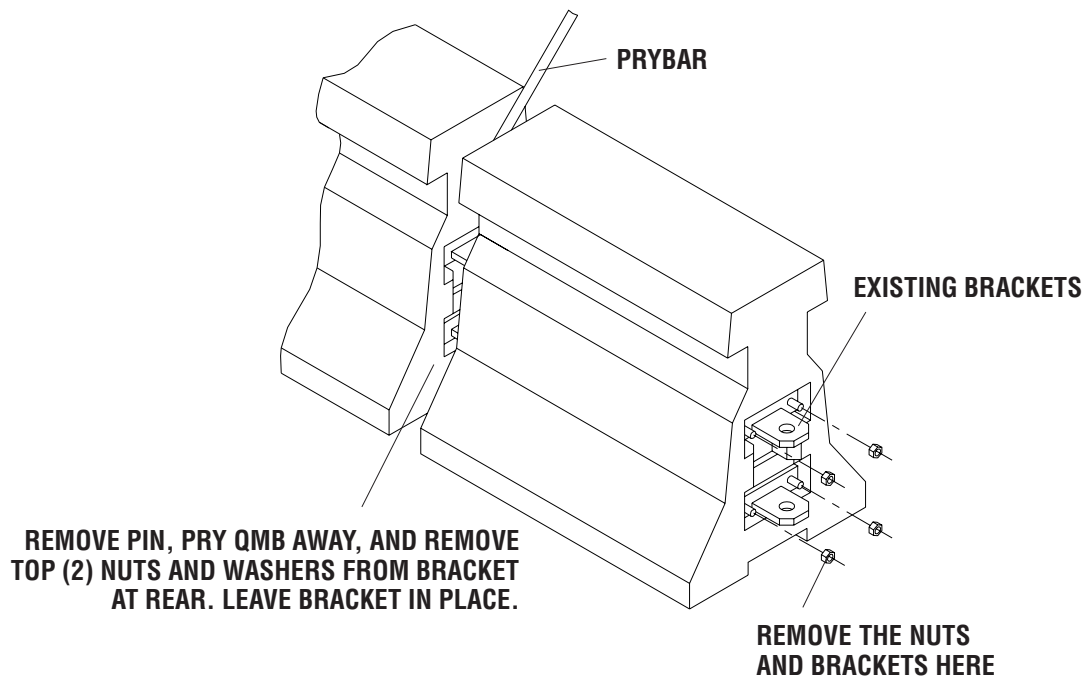

Figure 9
Step 1: Removal of Existing QMB Brackets (see Figure 9)